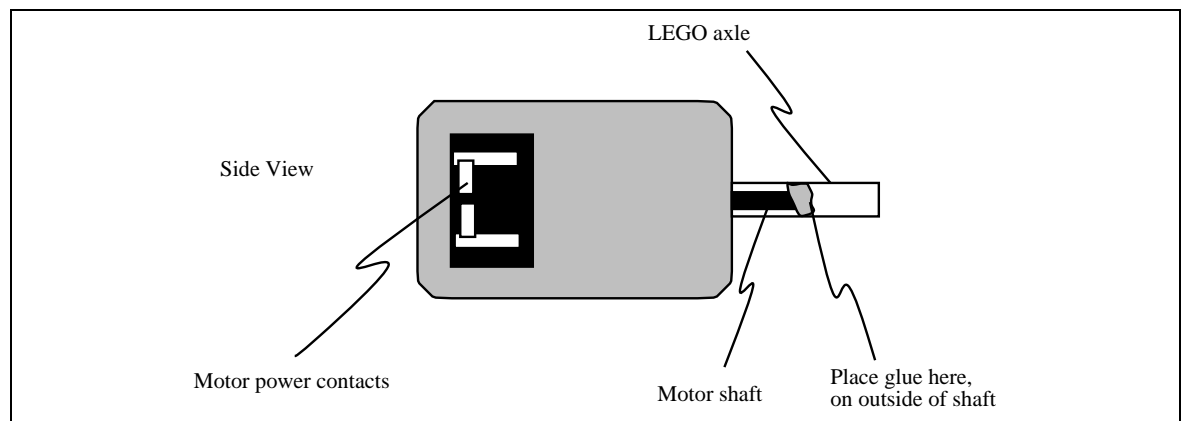

Figure 4.21: Motor Housing with Tubing
- Place a drop of super glue around the outer area of the motor shaft, farthest away from the motor housing as shown in Figure 4.21. *Make sure that too much glue is not used. If there is too much super glue, it may leak into the motor housing and jam up the motor.* Using a paper napkin, pat off any of the excess super glue.